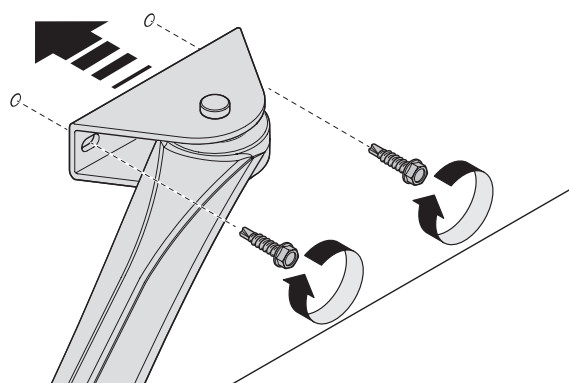

Fig. 11
03. Fix the bracket to the solid section of the gate leaf **Fig.11**.